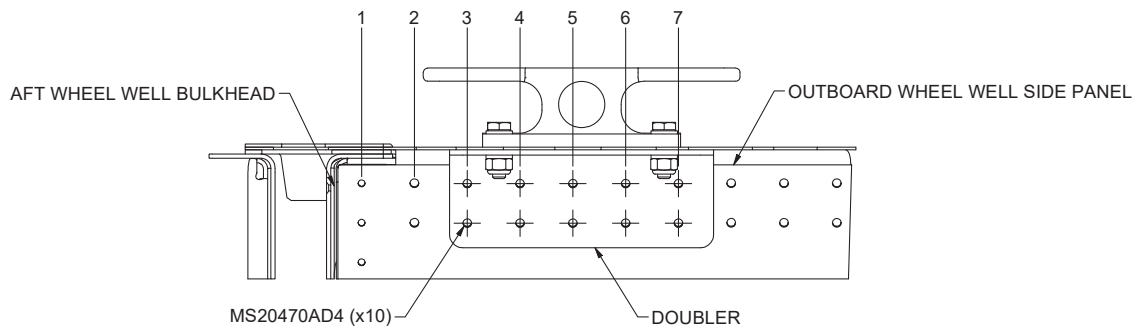

Figure 1
1. Remove 10 rivets from wheel well side panel at location 3 through 7. (See Figure 1)
3. Position the doubler as shown and fasten to the wheel well side panel using noted fasteners (See Figure 1)